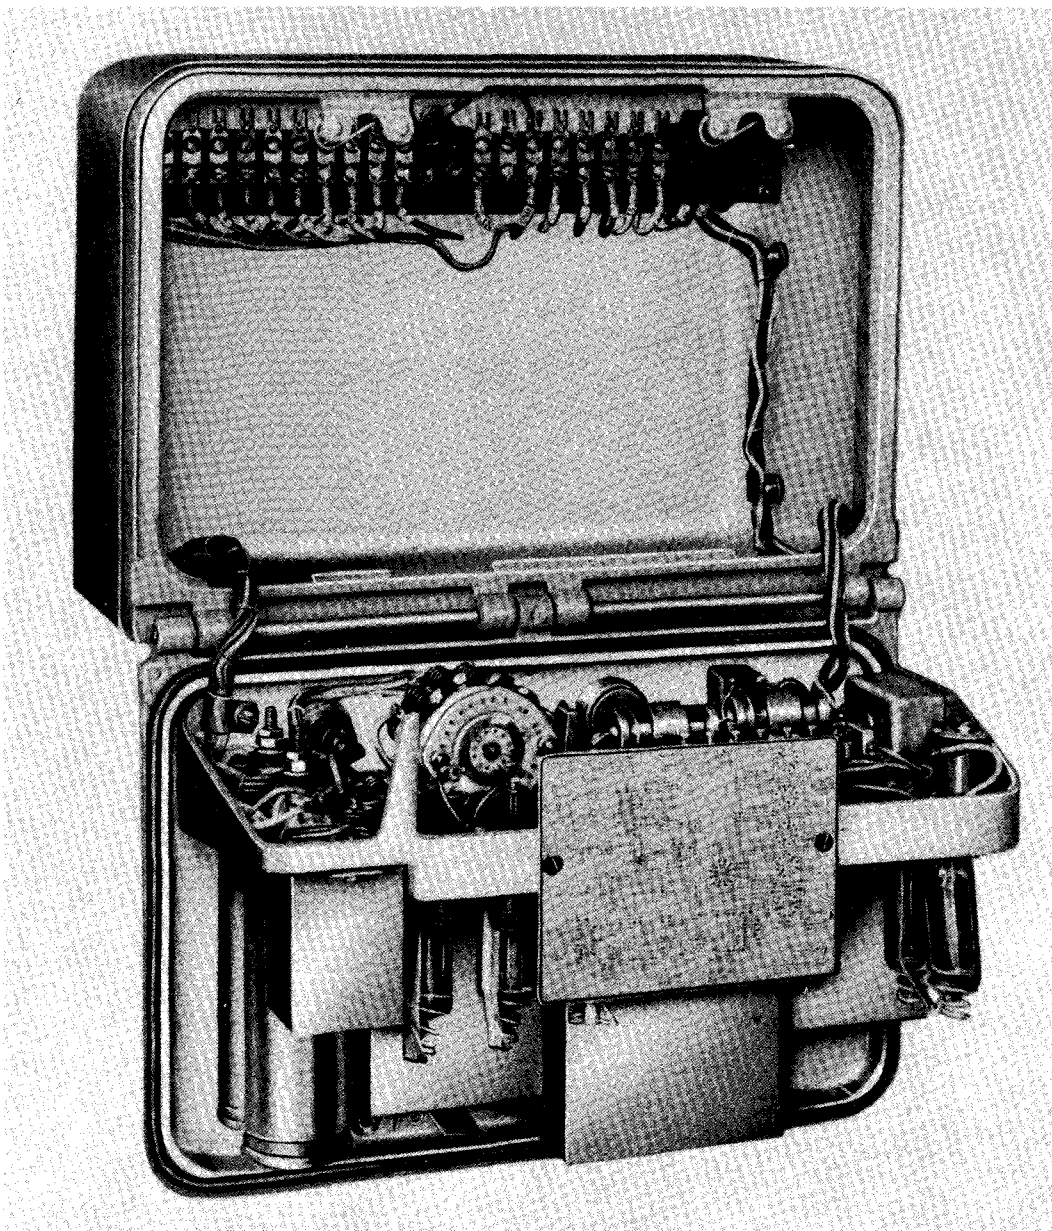

Figure 5-1. A.F. Amplifier AM-215B/U Open for Maintenance
(2) **FUSE REPLACEMENT.**—Open the assembly (see figure 5-1) by releasing the fasteners at the top of the panel with a quarter turn counterclockwise. Tip the panel out so that the top of the chassis is accessible. The fuses are plainly marked F101 and F102. Extract the fuse by turning the knurled fuse holder cap approximately an eighth turn counterclockwise and lifting both the cap and the fuse out of the holder. Pull the fuse out of the cap. Insert a new fuse in the cap and replace in holder. Use the SPARE FUSES which are held in clips on the chassis, and replenish from spare parts.